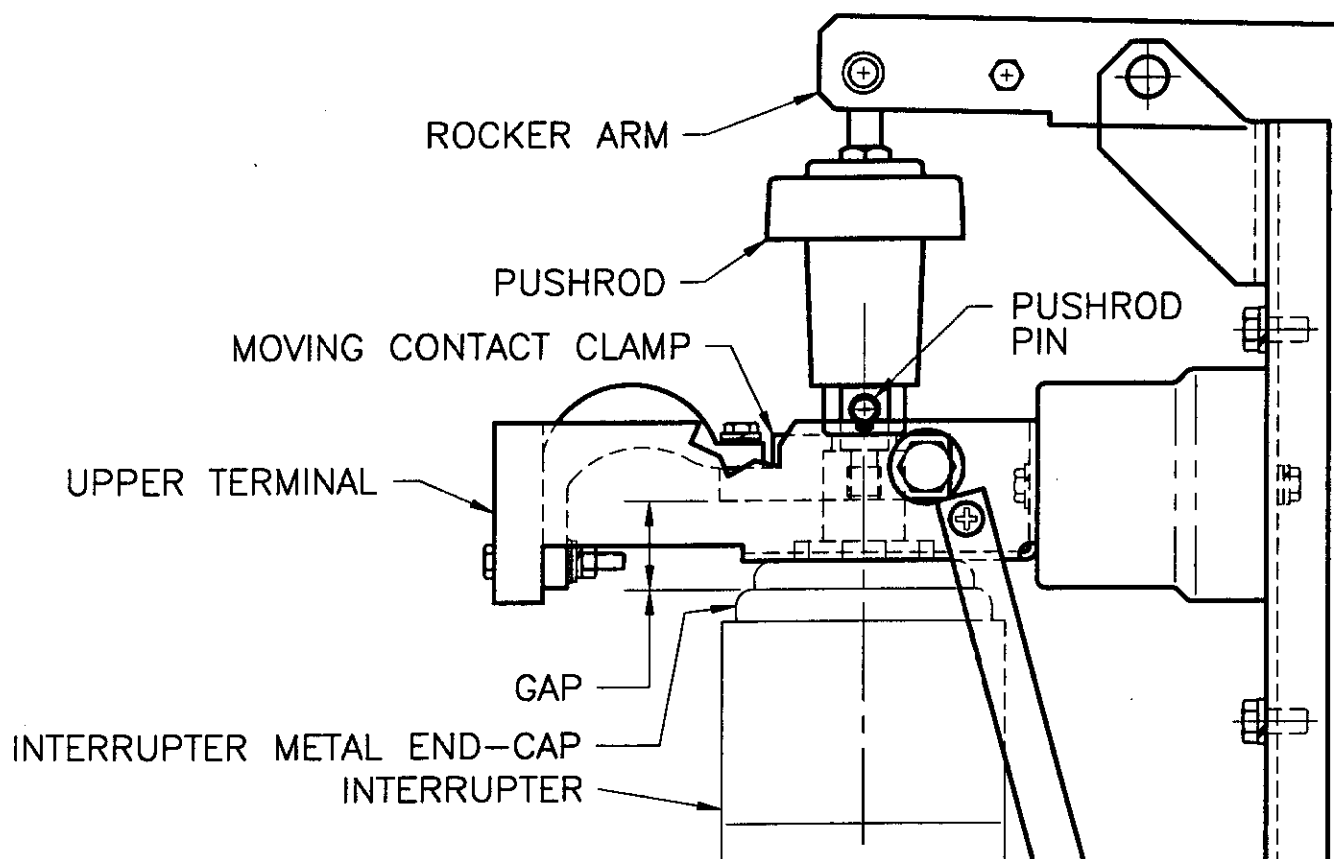

Figure 3 - Contact Gap
3. Contact Gap (See Figure 3). The contact gap is set at the factory at the nominal dimension of .35". This value will normally increase as the contacts erode. A check of the contact gap tests that the breaker opens fully, and that the gap is sufficient to withstand the applied voltage. The measurement is made as follows for the three poles: